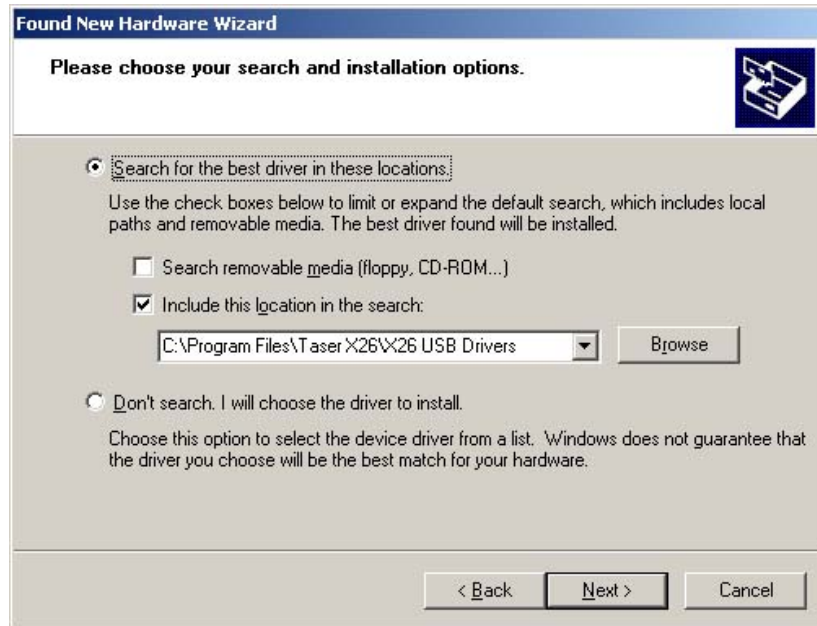

Figure 48
b. Click **Next** (Figure 48).